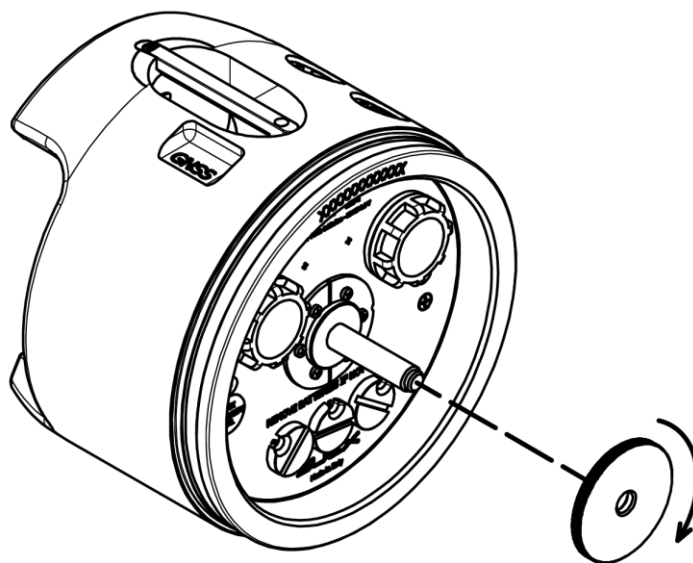

Fig 11 - Ballast salt water XJ
- Install the extra salt water ballast disk (item 11 - Fig. 3) on the SINAPSI like in **Fig 11 - a pag. 13**;